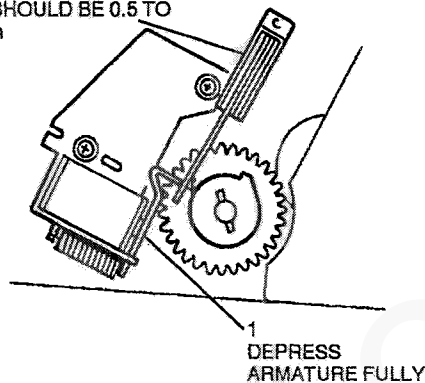

Figure 2. Measuring armature clearance
- (Figure 2) Measure the clearance between the clutch spring claw and the cassette feed solenoid armature.